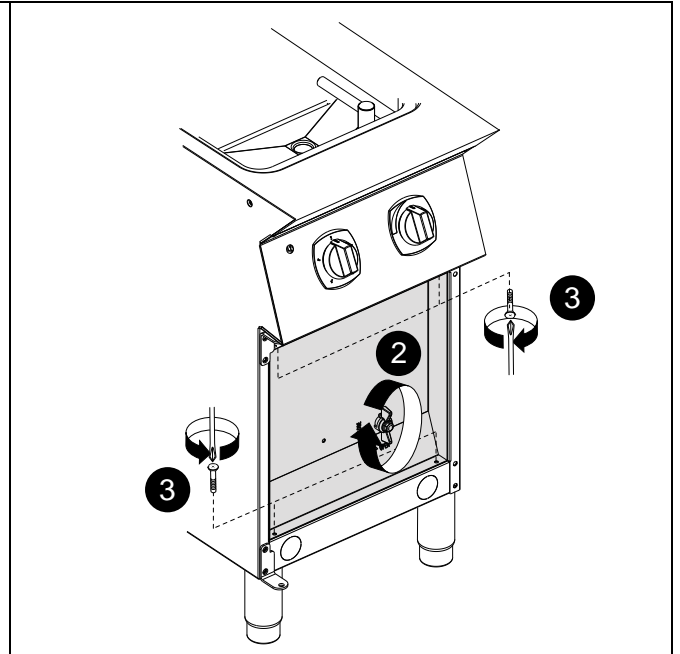

FIG. 2
1. Undo screw "A" (see FIG. 2);
1. Loosen screw "A" (see FIG. 2);
2. Unscrew the knob of the drain valve (see detail 2 —FIG. 2).
3. Undo the four fixing screws to remove the front panel (see detail 3 —FIG. 2).